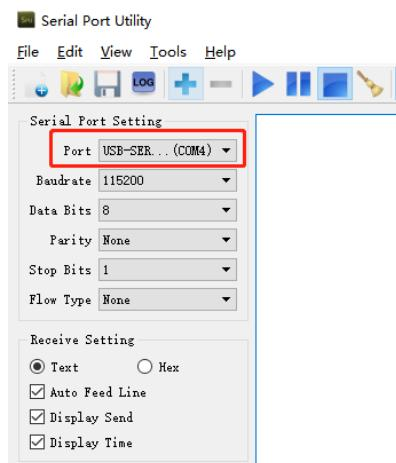

Figure 4-9 Choose correct serial port
5) Choose correct COM port from left tool sidebar (Figure 4-9), the sequence No. of COM port is got when the driver of USB serial cable is installed success. 【4.3 Install driver for USB serial cable (Windows 10)】